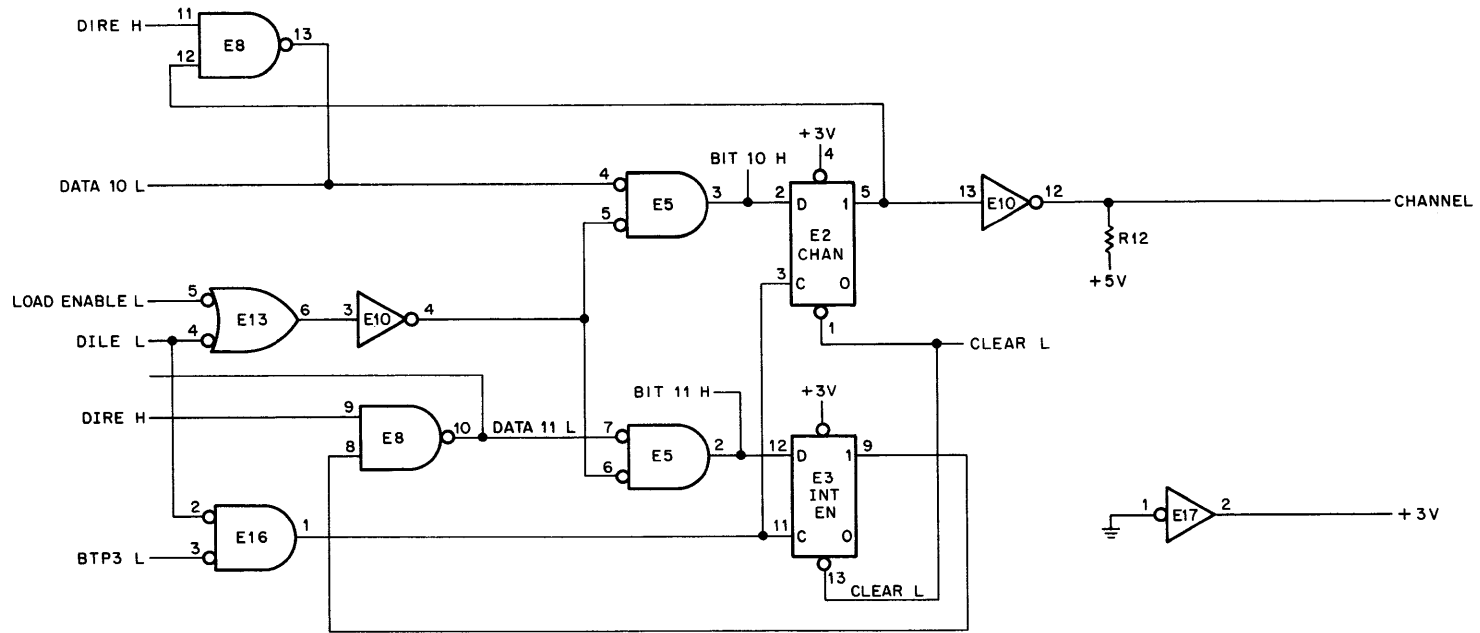

Figure 4-37 Enable/Status Register
**4.4.2.2 Enable/Status Register** – The Enable/Status Register consists of the CHANNEL SELECT, COLOR SELECT, ERASE, STORE, WRITE THROUGH, INTERRUPT ENABLE, and DONE flip-flops (see Figures 4-37 and 4-38). The Enable/Status Register will provide signals to enable the interrupt system, select a channel in the oscilloscope for displaying data, select color, store, write through, produce an erase cycle, and provide status bits to be transferred to the AC.
**4.4.2.2 INTERRUPT ENABLE Logic** – INTERRUPT ENABLE is used to enable the Interrupt logic shown in Figure 4-39. INTERRUPT ENABLE E3 will be cleared by CLEAR L from the programmer's console, or by the DILE instruction ANDed with TP3 at E16 if DATA 11 is low. When DATA 11 is high, the INTERRUPT ENABLE flag will set. DATA 11 is transferred to the M869 module by the DILE instruction (see Figure 4-37). DIRE on pin 9 of E8 will enable E8 and will allow the set side of E3 to be applied to the Data Bus. The set side of E3 will be transferred to the AC by a DIRE instruction to indicate the status of the INTERRUPT ENABLE flag.
**4.4.2.3 CHANNEL SELECT Logic** – The CHANNEL SELECT flip-flop E2 will be used to select one channel on the oscilloscope for display of data (see Figure 4-37). DATA 10 is transferred from the AC by a DILE instruction to set E2 if bit 10 is low, or clear E2 if bit 10 is high. DILE out of E13 and E10 will enable E5. If DATA 10 is low, E2 will set and select channel 2. If DATA 10 is high, the data input to E2 will be low and the clock input from E16 will clear E2 to select channel 1. The set side of E2 is tied to pin 12 of E8 and the DIRE instruction will enable E8. When E2 is set, a low (1) will be transferred to the AC to indicate channel 2 is selected. When E2 is cleared, DATA 10 will be high (0), and will indicate channel 1 is selected when DIRE is executed.